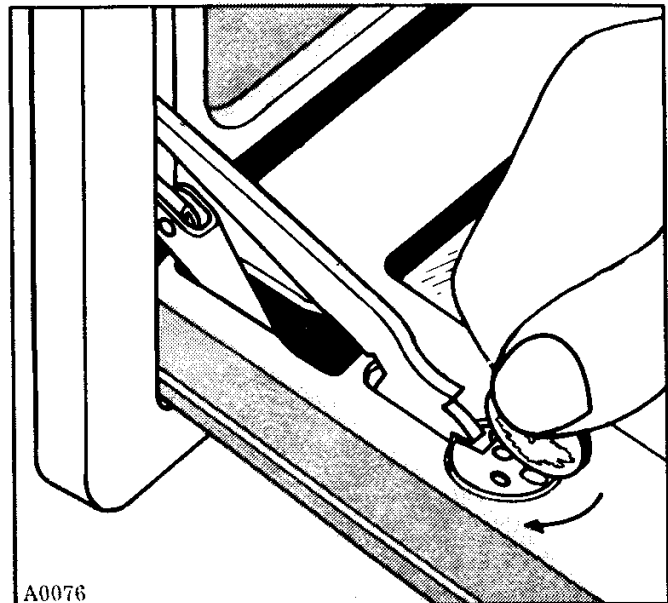

Fig. 11
2. With the aid of a coin move the two retaining discs a quarter turn clockwise, so that the two raised bars are to the left hand side of the hinges (Fig. 11).